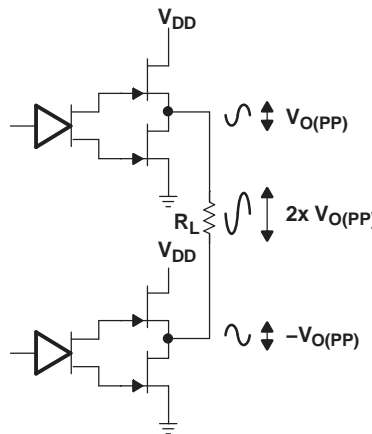

Figure 42. Differential Output Configuration
Figure 42 shows a Class-AB audio power amplifier (APA) in a bridge-tied-load (BTL) configuration. The TPA6043A4 speaker amplifier consists of two Class-AB differential amplifiers per channel driving the positive and negative terminals of the load. Specifically, differential drive means that as one side of the amplifier (the positive terminal, for example) is slewing up, the other side is slewing down, and vice versa. This doubles the voltage swing across the load as opposed to a ground-referenced load, or a single-ended load. Power is proportional to the square of the voltage. Plugging 2x VO(PP) into the power equation yields 4X the output power from the same supply rail and load impedance as would have been obtained with a ground-referenced load (see Equation 3).